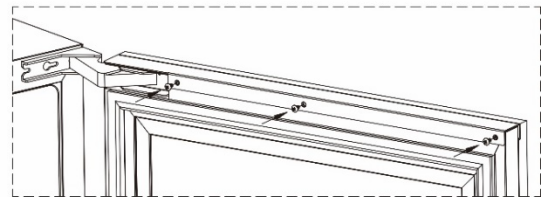

Fig.3
6. Push into place and secure with Phillips screw. (Fig.3)